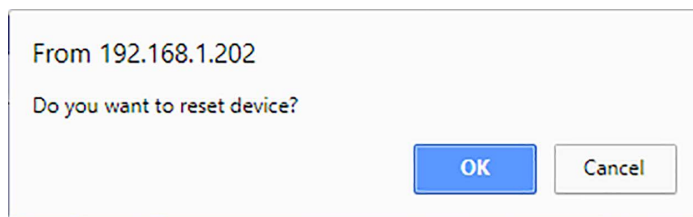

Figure 5-34 - Reset Device Dialog
3. Click **OK** to continue. The following dialog appears (see Figure 5-34):